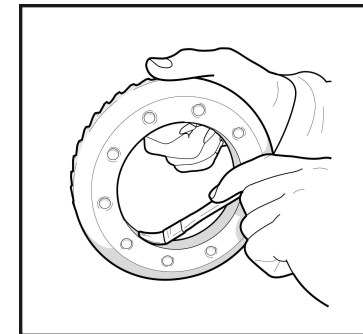

Fig. 15
**2.4** Apply a thin layer of high-pressure grease to the inner bore of the ring gear before installing it on the differential carrier to facilitate installation. (Fig. 15)